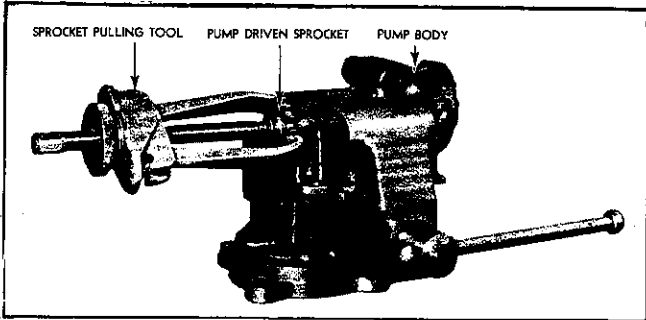

Fig. 9—Pulling Drive Sprocket from Oil Pump Shaft.
4. Support pump body and driveshaft assembly, including sprocket, or gear, in bench vise; then by means of a gear puller, pull sprocket, or gear, from pump shaft, as shown in Fig. 9. Remove Woodruff key from shaft, and withdraw shaft and gear assembly from pump body.